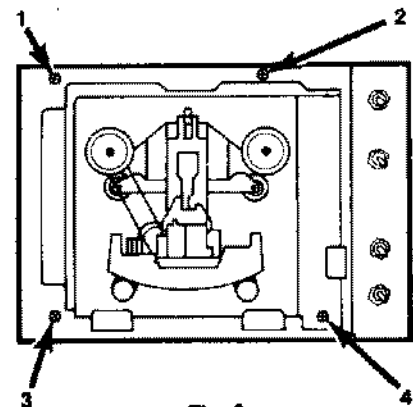

Fig. 6
4. Remove the four phillips head wood screws which retain the case assembly to the picture frame housing. See Figure 6.